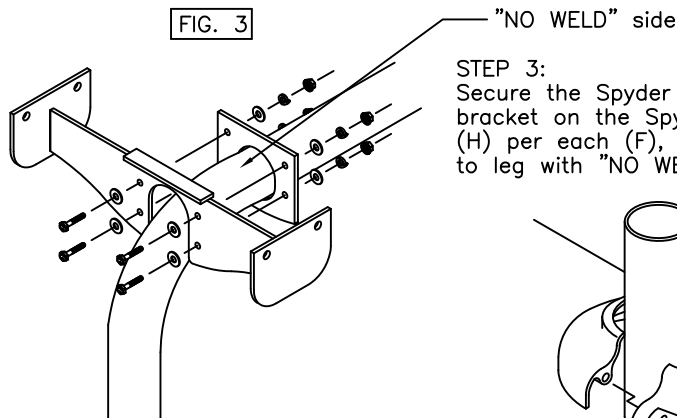

FIG. 3
Secure the Spyder leg seat assembly (C2) to the outside of the mounting bracket on the Spyder leg (C1) using one (F), one (I), one (J) and two (H) per each (F), see FIG. 3. Be sure seat assembly is assembled to leg with "NO WELD" side against leg mounting plate.